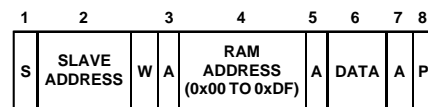

Figure 30. Single Byte Write to RAM
1. To write a single byte of data to RAM. In this case the command byte is the RAM address from 0x00 to 0xDF and the (only) data byte is the actual data. This is illustrated in Figure 30.